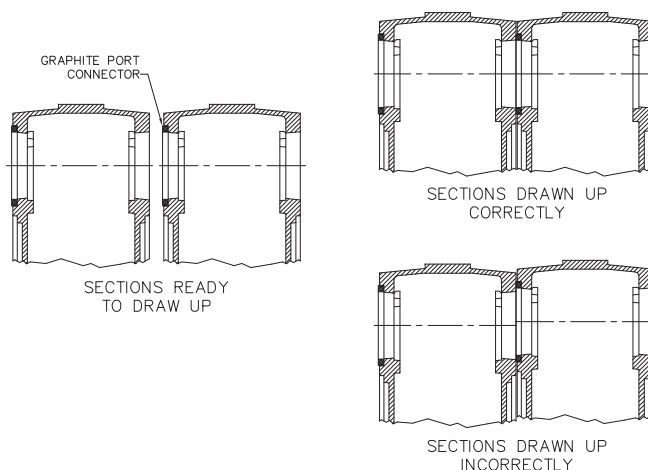

Figure 2.5: Drawing Up Sections
12. Select the correct intermediate section (refer to Table 2.2), and slide it into place against the front section. Ensure that the sections are plumb and the port connectors are properly seated in the port recesses as indicated in Figure 2.5.